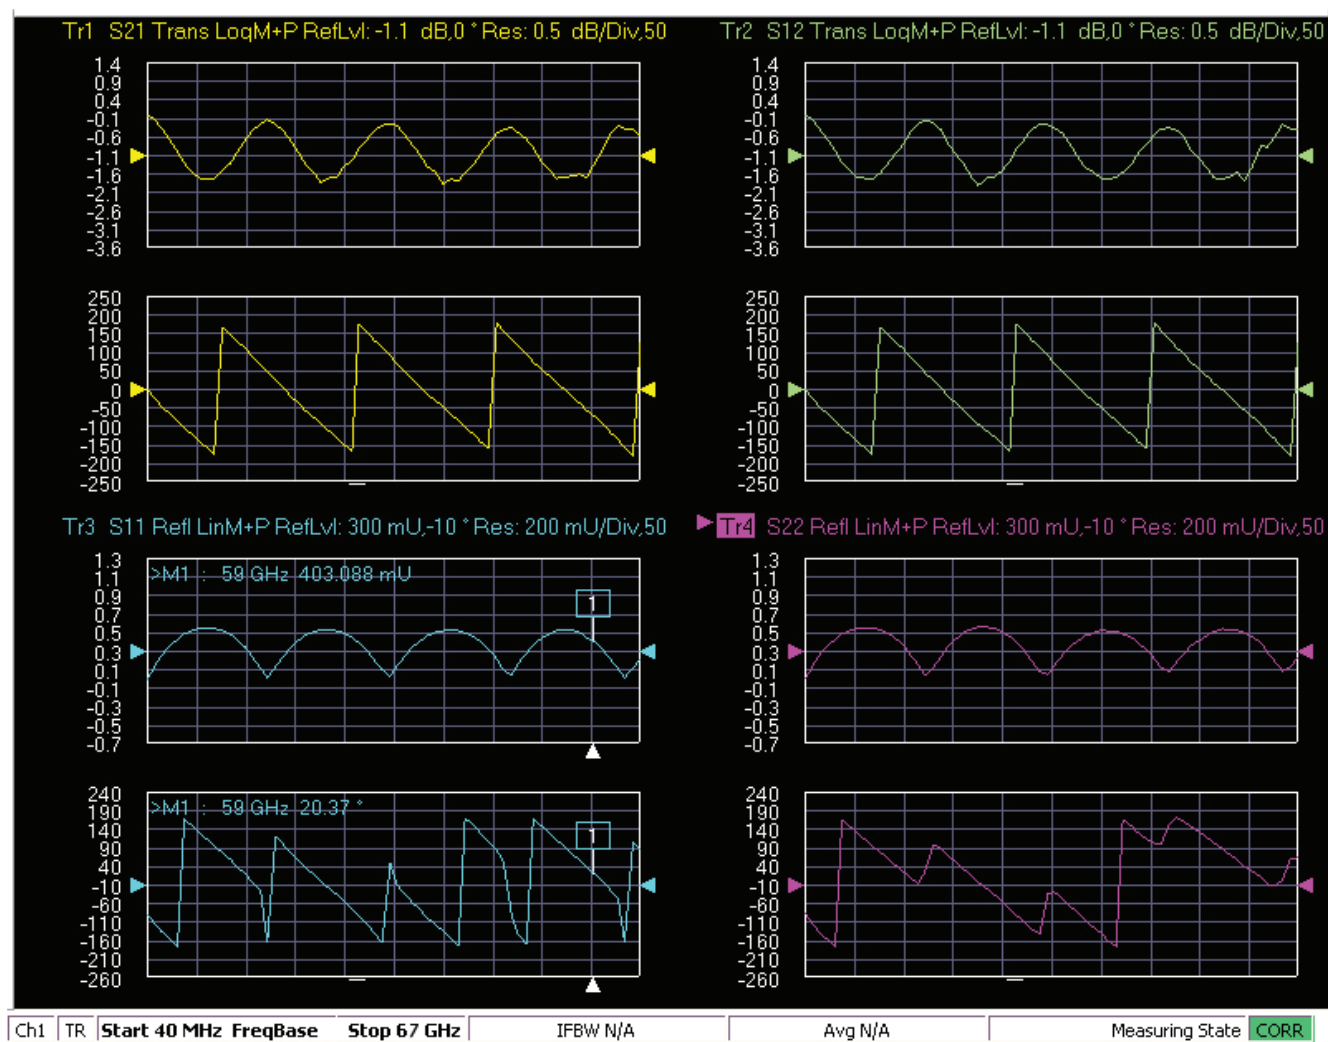

Figure 3-53. MS4640B Series VNA, Typical Mismatched Thru Data in Low Band
7. When the test completes, the program returns to the main menu described Section 3-9 “Application Interface – Main Menu Tab” on page 3-27, and the display should look similar to Figure 3-53. This is a